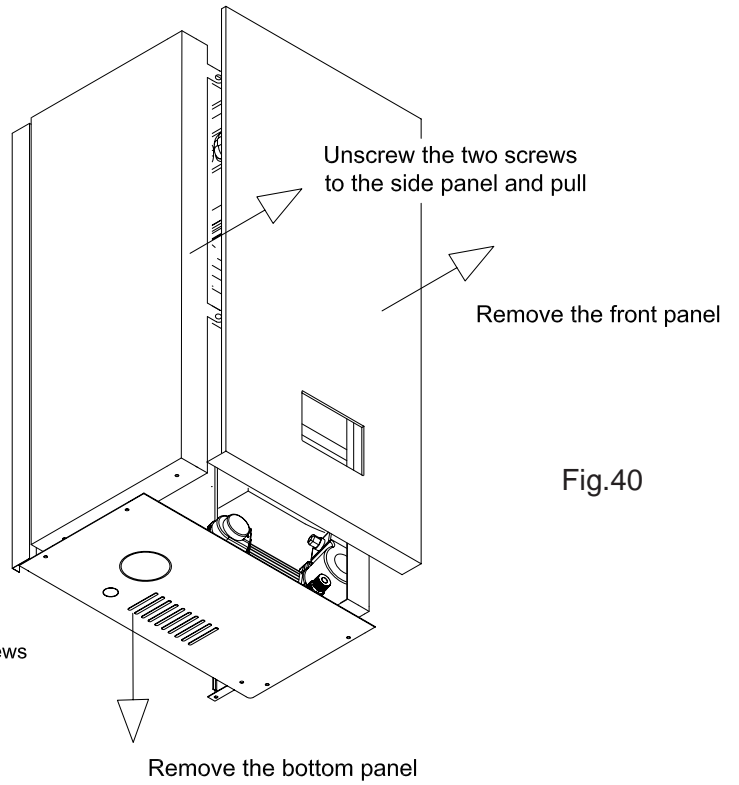

Fig.40
**8.3 TO REMOVE LEFT AND RIGHT PANELS (Fig. 40)**